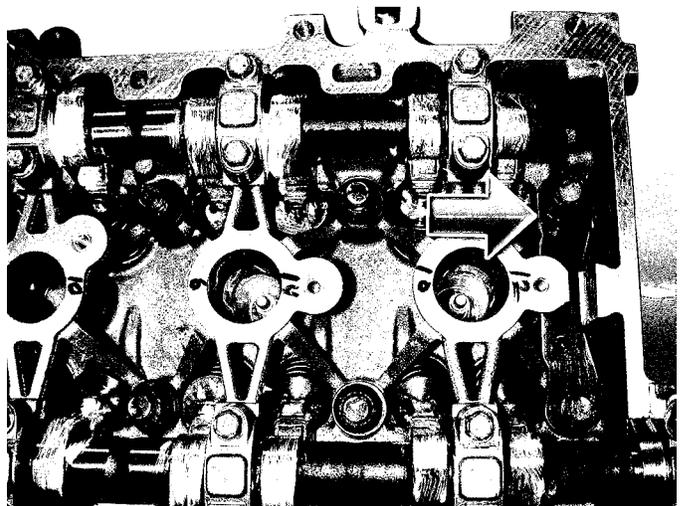

Figure 20
- The water jackets on each end of the cylinder head have been pinned for support (Figs. 20 and 21).